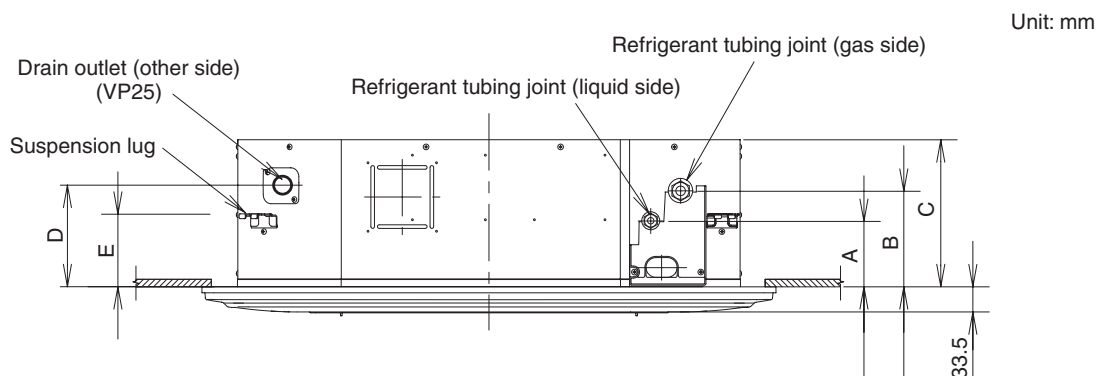

Fig. 2-31
- (3) Determine the pitch of the suspension bolts using the supplied full-scale installation diagram. The diagram and table (Fig. 2-31 and Table 2-12) show the relationship between the positions of the suspension fitting, unit, and panel.